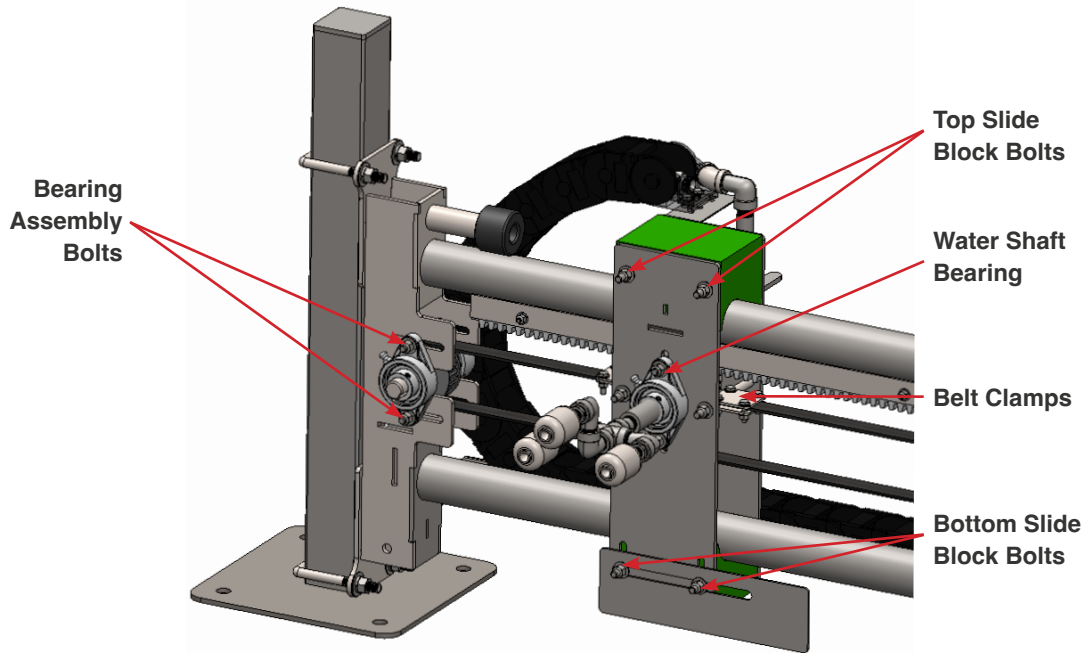

Fig. 7.2.2 - 1 - Bearings, slider block, and belt clamp bolt locations
4. Remove the bolts holding the belt clamps onto the trolley carriage (Fig. 7.2.2 - 1).
5. Remove the bolts holding the bottom slide block and trolley flag (Fig. 7.2.2 - 1).